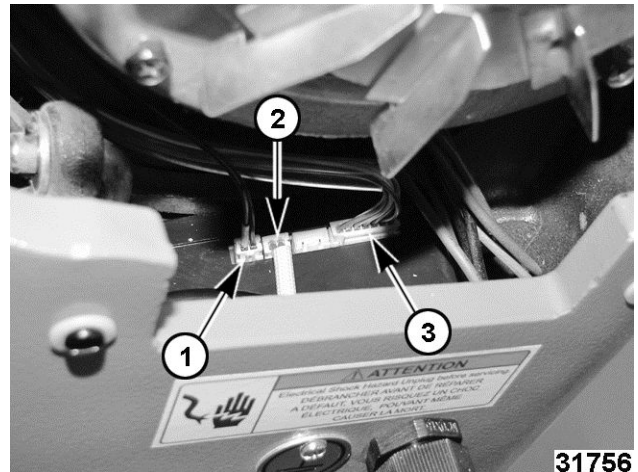

Fig. 54
- Disconnect bowl in micro switch (2, Fig. 54) from power board.